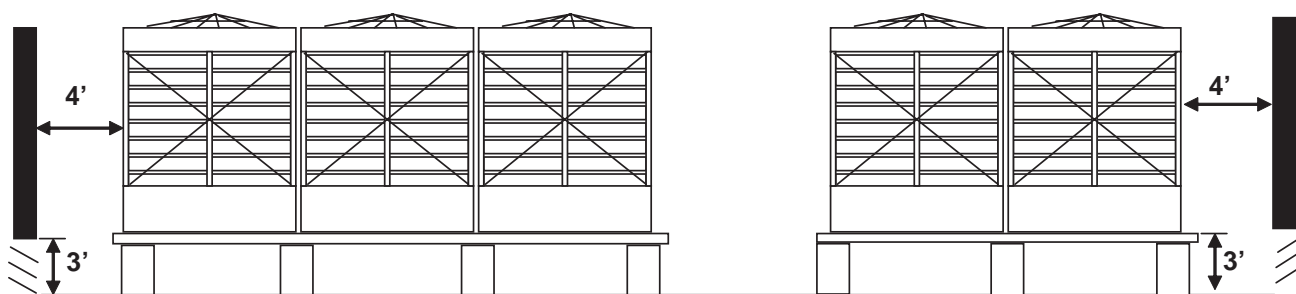

Figure 17: Elevation view of recommended enclosure
1. Enclosure: The bottom 3 feet of the well should be louvered a minimum of 50% net free area to allow air flow under the units as shown in Figure 17.